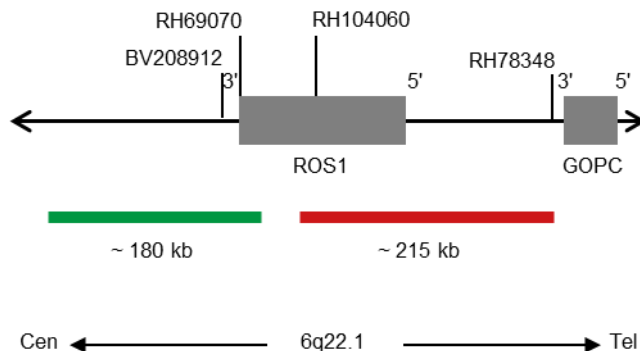

Fig. 1: SPEC ROS1 Probe map (not to scale)
- Digoxigenin-labeled polynucleotides (~0.50 ng/ μ l), which target sequences mapping in 6q22.1* (chr6:117,448,964-117,627,255) proximal to the ROS1 breakpoint region (see Fig. 1).
- Dinitrophenyl-labeled polynucleotides (~0.75 ng/ μ l), which target sequences mapping in 6q22.1* (chr6:117,659,135-117,871,701) distal to the ROS1 breakpoint region (see Fig. 1).